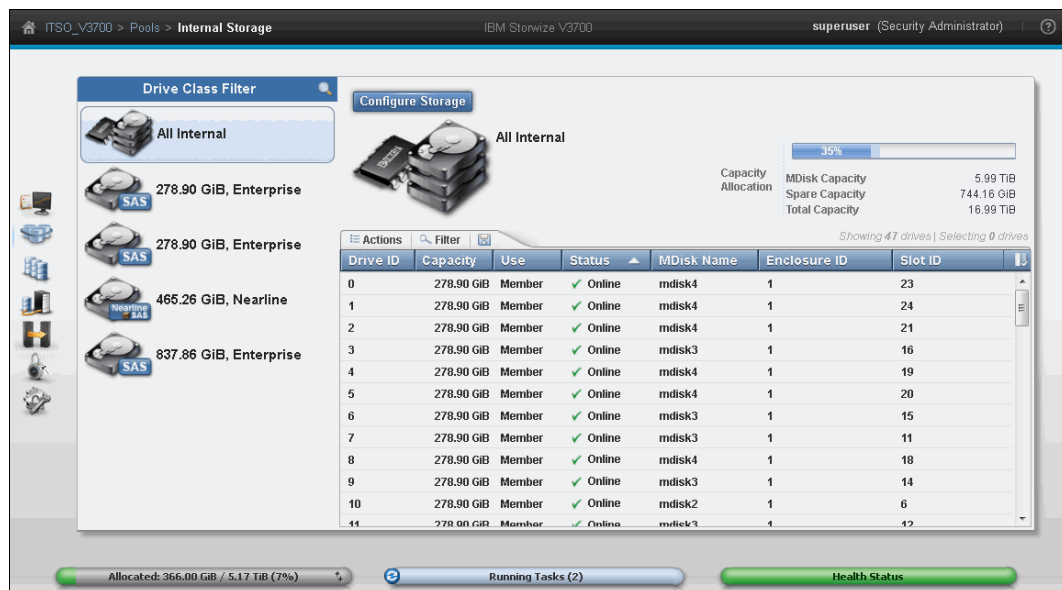

Figure 9-15 Creating Easy Tier Pool
1. Click **Pools** → **Internal Storage**. Figure 9-15 shows all of the internal drive classes installed in the IBM Storwize V3700.